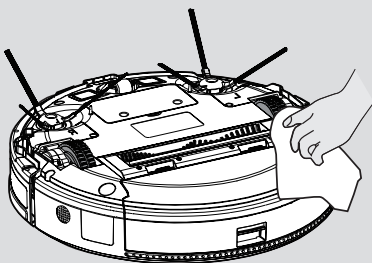

Fig. 19
3. Clean the wheels with a dry cloth. [Fig. 19]